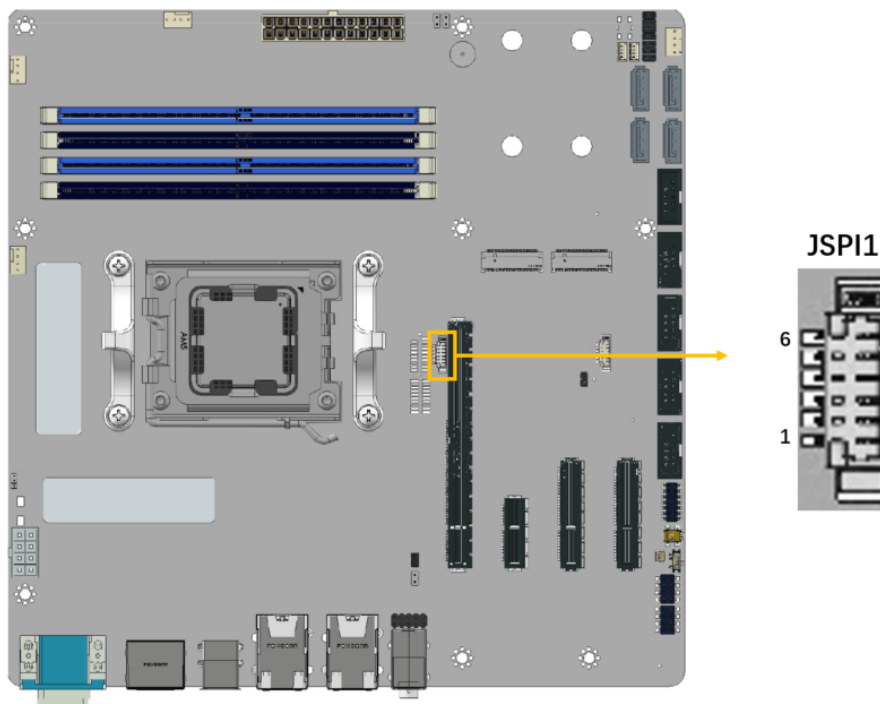

Figure 4-22: Flash SPI ROM Connector Location
- CN Location:** See **Figure 4-22**